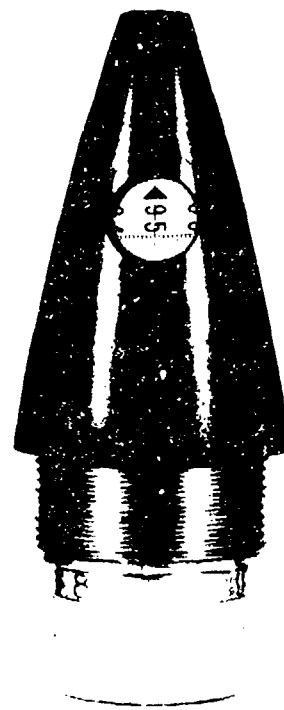

Figure 11-30. Shipping and storage setting of fuze M577 or M582.
(1) *Setting for impact action (▲ 98).* Rotate the fuze setter approximately ¼ turn in a counterclockwise direction to change from the shipping and storage setting ▲ 95 (fig 11-30) to a